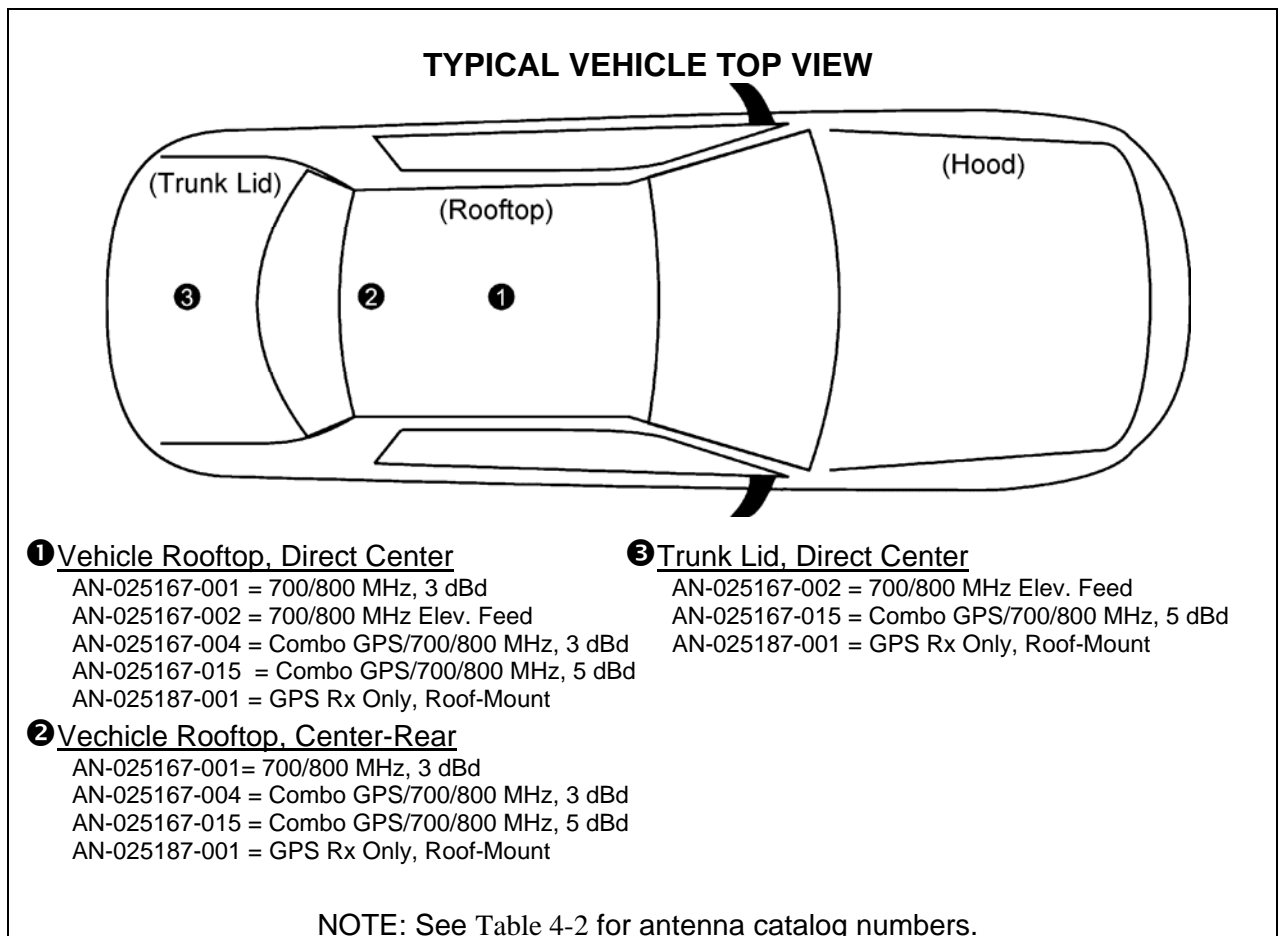

Figure 7-1: Recommended Antenna Mounting Locations With Antenna Part Numbers
At this time, review all information presented in the **REGULATORY AND SAFETY INFORMATION** section of this manual (begins on page 6). A transmitting antenna must be installed in accordance with the guidelines presented in the **REGULATORY AND SAFETY INFORMATION** section. Use Table 1-1 on page 8 and Figure 7-1 below as a guide for determining the best possible mounting configuration/location in order to reduce human exposure to radio frequency (RF) electromagnetic energy during transmit mode.
Antennas can be mounted in one of three (3) possible locations on the vehicle as described in the following subsections. Figure 7-1 shows the recommended locations and antenna part numbers for each location. Also, see Table 4-2 for additional information. Always follow manufacturer's instructions when mounting an antenna.
The center of the vehicle's roof is the best location for the rooftop antenna (❶ in Figure 7-1). For optimal performance, the mounting area under the antenna must be a flat with a minimum radius of six (6) inches of metal ground plane. It must be located directly in the center of the roof to minimize human exposure to RF electromagnetic energy. Other obstructions such as a light bar or another antenna may prevent the antenna from being mounted in the direct center of the roof. In this case, the antenna should be mounted a minimum of one foot away from and behind the obstruction but in the middle of the roof with respect to the left and right sides of the vehicle (❷ in Figure 7-1).
Certain vehicles do not allow for the antenna to be placed in the center or center-rear of the roof. In this case, the next best location for the antenna is in the direct center of the trunk lid (❸ in Figure 7-1). In this case, an elevated-feed-point antenna is recommended. Although this type of antenna does not require a metal ground plane, it must be located directly in the center of the trunk lid to minimize human exposure to RF electromagnetic energy.